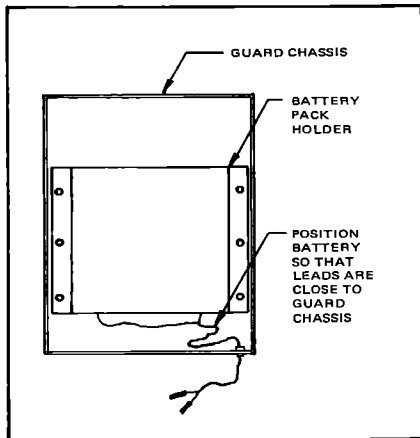

Figure 6-3. BATTERY PACK INSTALLATION
- g. Install the battery pack on the inside of the top guard cover, using the battery pack holder and six machine screws, as shown in Figure 6-3. Orient the battery pack so that the battery leads pass through the grommets in the guard cover.